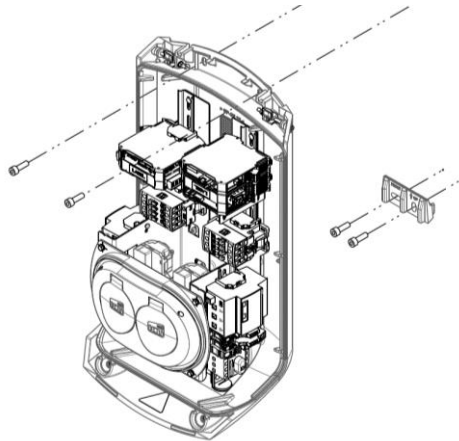

Figure 1: 3-phase model shown
3. Allow the charging point to drop on the suspension block perpendicularly (fig. 1).
4. Fix the charging point at the top side using 2 screws with a cross section of no more than 8 mm. (Fig. 1.)